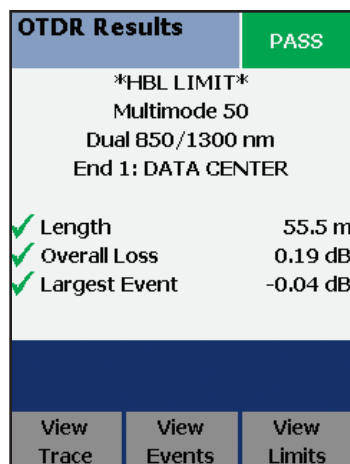
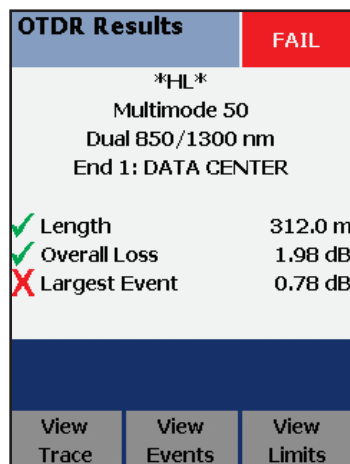

Figure 16 – "Pass" screen on the DTX Compact OTDR
Figure 17 – "Fail" screen on the DTX Compact OTDR
- It is possible to create multiple sets of OTDR test limits and select one for a particular job. Each OTDR test passes (Figure 16) or fails (Figure 17) based on a comparison against the selected set of test limits.